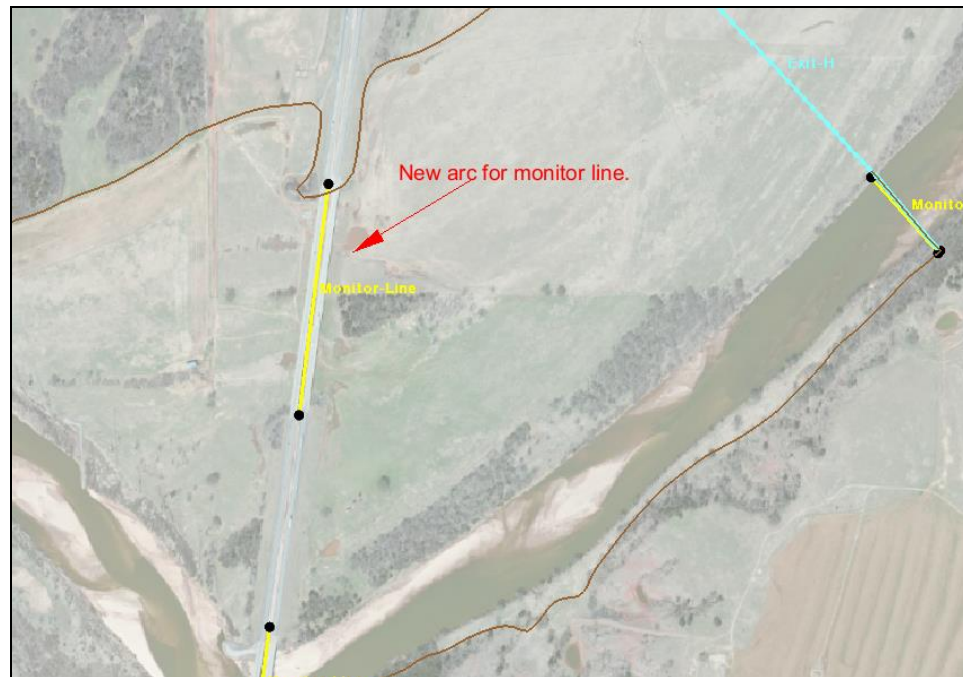

Figure 3 The location of the Inlet-Q and Exit-H boundary conditions and the four monitor lines
2. Using the **Create Feature Arc** tool, create an arc near the secondary bridge as showing in Figure 3.